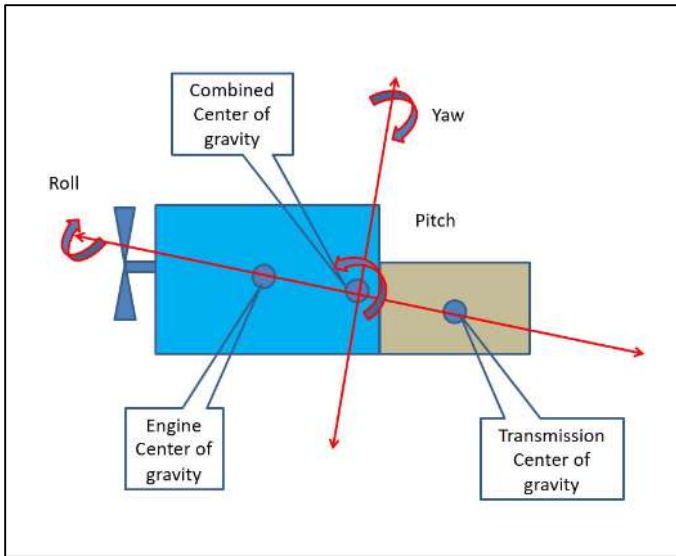

Fig 2: Degrees of freedom
Out of 6 modes, three are shaking modes (vertical (Z), horizontal (Y), and axial (X)) and other three are rotating modes (pitch, yaw, and roll). For each rotating mode, the object will tend to move around the axis where the moment of inertia is lowest. The location of these axis for a typical engine / transmission assembly is shown in Figure 2. Most diesel engine vibration can be separated into pitch, yaw, roll, and vertical shaking.